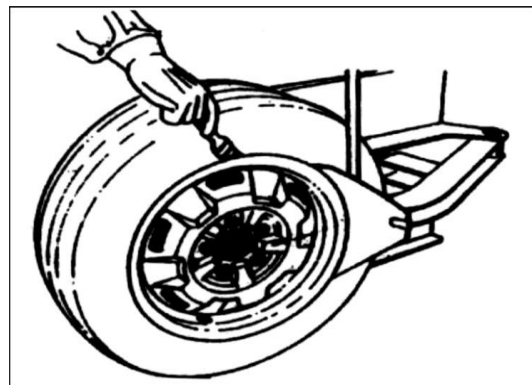

FIG15
- ✧ Deflate the air in the tire completely and pull out the core. Use the special tool to detach the weight on the rim. Place the tire between then bead breaking blade and tire pressing runner clog(FIG15).